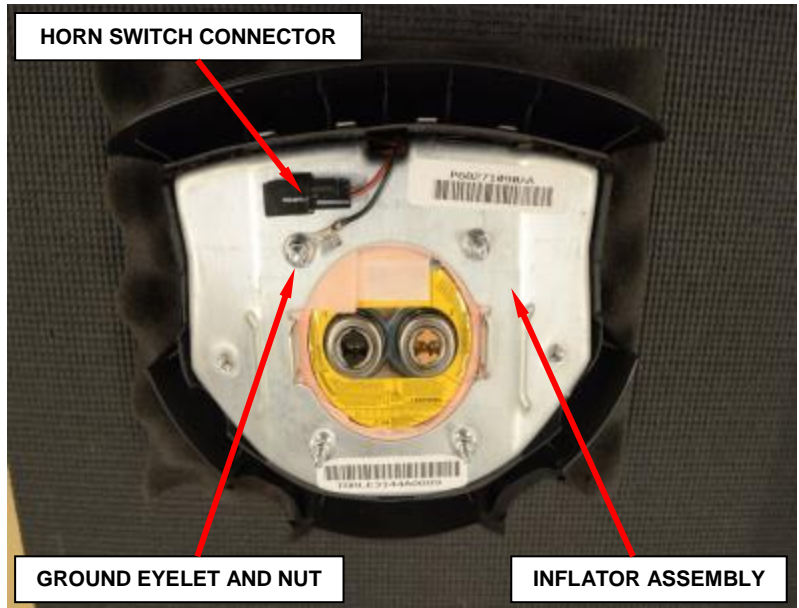

Figure 13 – Driver Airbag Assembly
21. Clip the horn switch connector to the inflator assembly (Figure 13).
22. Driver airbag retrofit is complete (Figure 13).